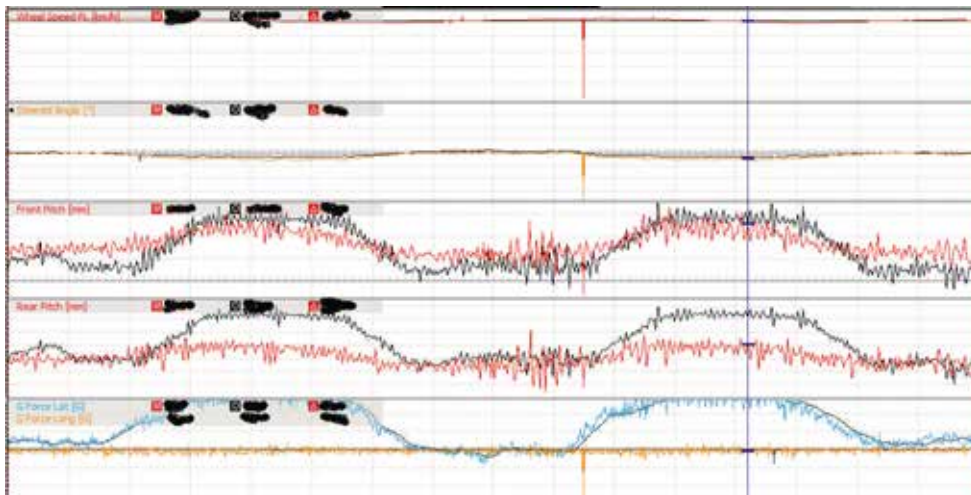

Figure 2: Simulation of a high downforce racing car
The other thing advantage of simulation is that it is a fantastic tool to validate what your aero is doing. Take this comparison of a high downforce racing car, as shown in **Figure 2**.
**Figure 2** has been taken from actual data so I've had to blank out scalings and data numbers. However, let me guide you through the channels. The top trace is speed, the second trace is steering, the third trace is front pitch (average of the front dampers) the fourth trace is rear pitch (average of the rear dampers) and the final trace is acceleration. In rough terms what we are seeing here is that the correlation down the straights is OK, but in the corners the simulated pitches indicated by the black traces diverge significantly. When most people see this they would think the simulation is rubbish. However, when you are seeing this you have an aeromap that isn't performing as advertised and it is your signal to fix the aeromap.
Before we discuss how to fix **Figure 2** it would be wise for us to reflect on what **Figure 2** is telling us. What **Figure 2** shows is that when the rear ride height drops below a certain value it actually stops producing downforce. This screams out at you when the simulated rear pitch keeps on going when the actual pitches level off. Typically what is happening here is